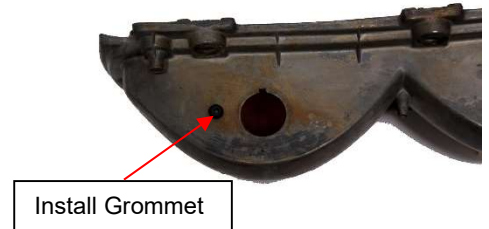

Figure 1
2. OPTIONAL: If sequential patterns are desired, drill a 3/16" diameter hole on the bottom surface of the outboard lighting cell within the housing and deburr hole. (See Figure 1) Then install provided rubber grommet into the drilled hole. One method to simplify installation is to pinch grommet, insert protruding edge into the hole, then use a small flat blade screwdriver to push/work the remaining edge through the hole.